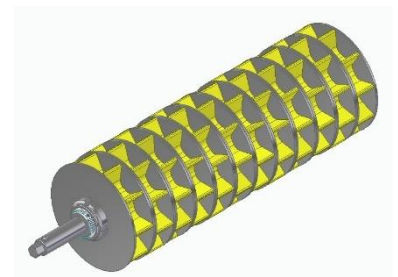

Figure 14
1. Flexible / coarsely serrated seed wheel 12x80 ccm = 960 ccm (Figure 14):